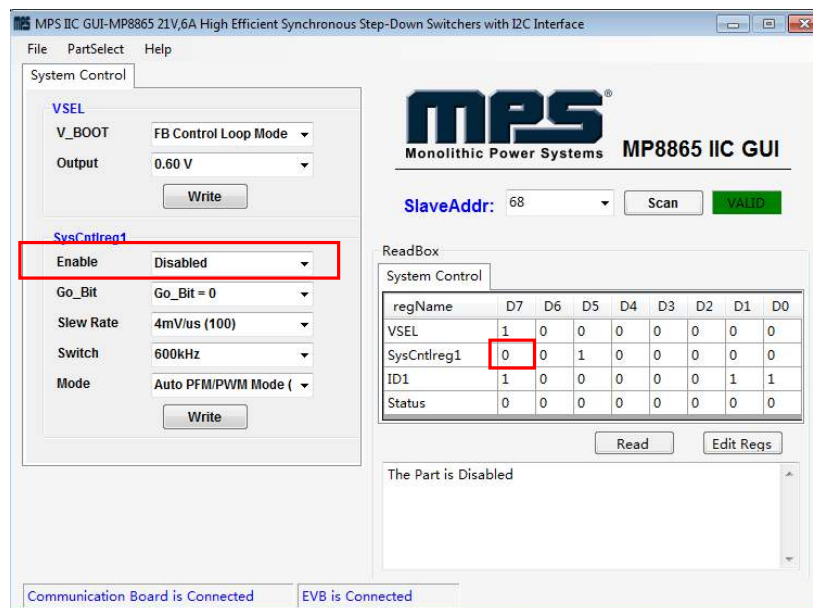

Figure 10: Refer to Datasheet to Translate 0’s and 1’s
5. Click the **“Read”** button to update values. The changed information of the item will appear on the right side (see Figure 10).